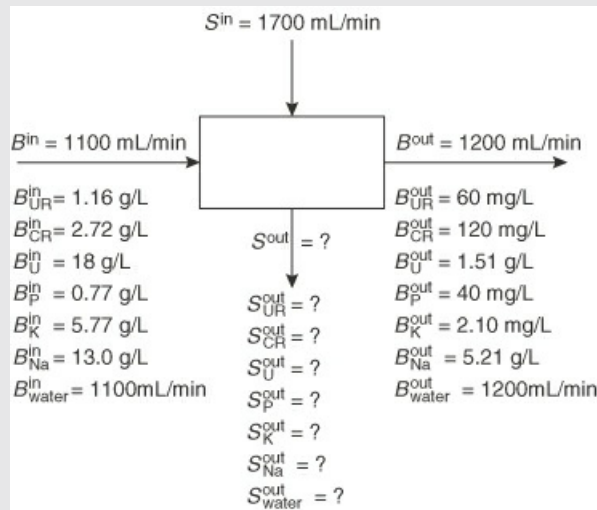

Figure E3.15b
This example focuses on the plasma components in streams S (solvent) and B (blood): water, uric acid (UR), creatinine (CR), urea (U), P, K, and Na. You can ignore the initial filling of the dialyzer because the treatment lasts for an interval of two or three hours. Given the measurements obtained from one treatment, as shown in Figure E3.15b, calculate the grams per liter of each component of the plasma in the outlet solution.
The data have been inserted on Figure E3.15b. You can ignore the effect of the components of the plasma on the density of the solution for this problem. The entering solution can be assumed to be essentially water.
Number of unknowns: Figure E3.15b shows quite a few variables, but let's count only those variables whose values are not specified in the figure. Only eight unknowns exist, seven values of the components in the exit stream of water and the total exit flow.